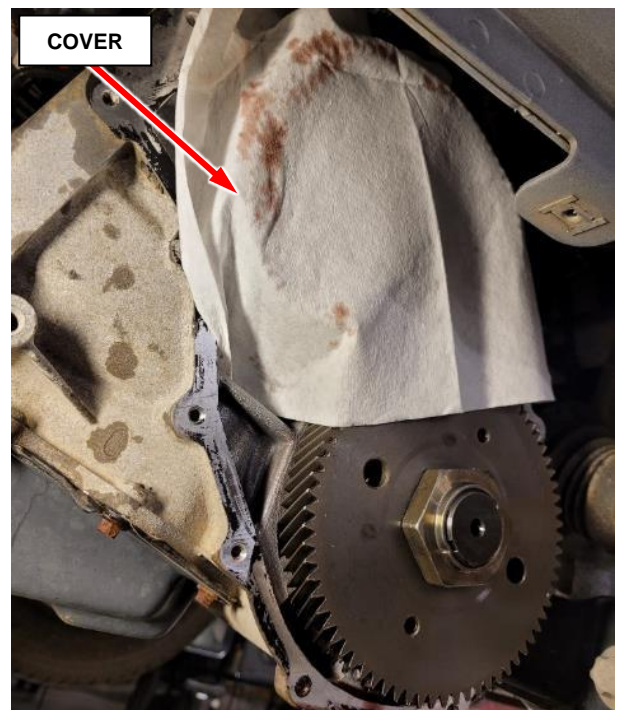

Figure 20 – Protect Transmission
31. Protect the areas surrounding the transfer gear to prevent metal grinding chips from entering the transmission (Figure 20).